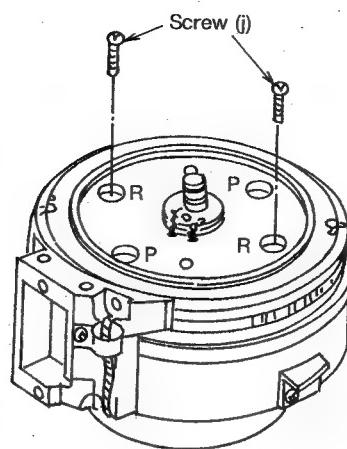

Fig. 7-8-1
7-8. Insert 2 screws to Hole (R) of the Center Drum Unit and tighten securely as shown in figure 7-8-1.